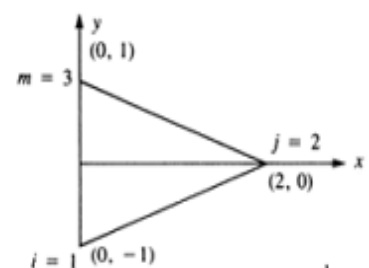

Figure-11
- Q.5** (a) Determine the element stiffness matrix for the element having coordinates as shown in *figure-11* in units of mm. Assume plane stress conditions. Consider $E = 30 \times 10^6 \text{ N/mm}^2$, Poisson's ratio $= 0.25$, and thickness $t = 1 \text{ mm}$. The element nodal displacements have been determined to be $u_1 = 0.0$, $v_1 = 0.0025 \text{ mm}$, $u_2 = 0.0012 \text{ mm}$, $v_2 = 0$, $u_3 = 0$ and $v_3 = 0.0025 \text{ mm}$. 07
- (b) For the plane stress CST element shown in *figure-11*, Determine the element stresses σ_x , σ_y , τ_{xy} . 07